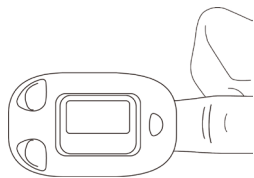

Figure 5 Put finger in position
- 2) Open the clip as shown in Figure 5.